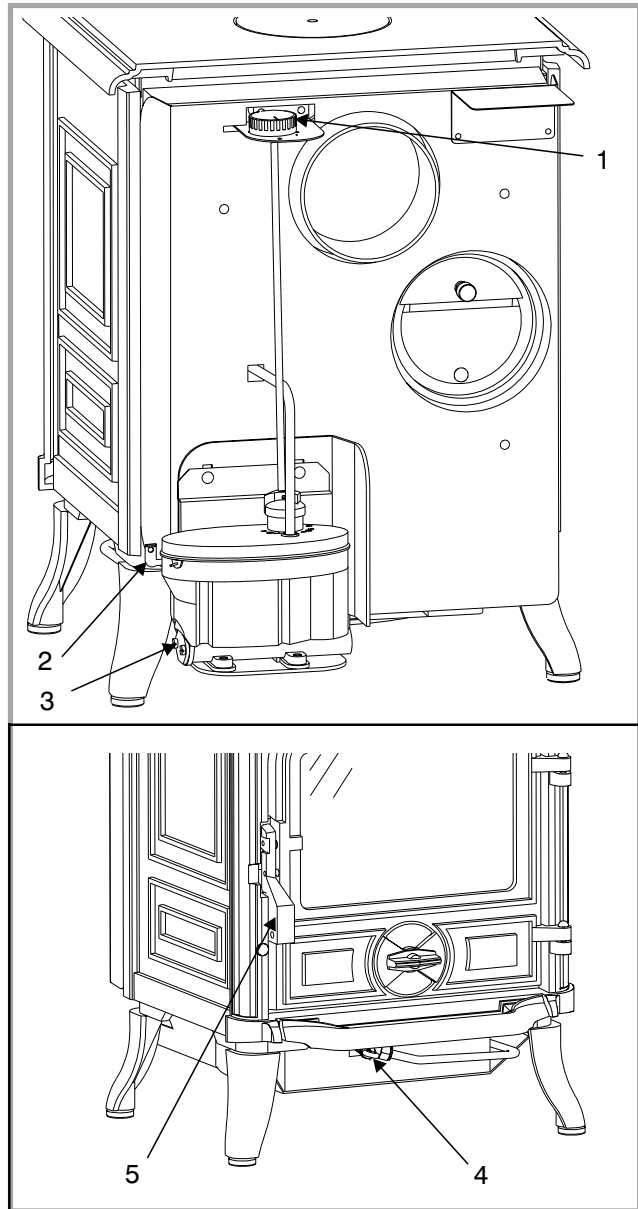

Figure 15 - Operating devices
- Be sure the control knob is to "0" (# 1, fig. 15).
- Push down gently on the safety lever (# 2, fig. 15). This will allow the oil to flow into the float regulator.
- Set dial to the "0" position (# 1, fig. 15).
- Raise the safety lever of the float regulator (# 2, fig. 15).
Every week : operate the de scaling lever (# 4, fig. 15).
- set the regulation knob in closed position "0" (# 1, fig. 15),
- raise the safety lever of the float regulator (# 2, fig. 15),
- remove the filter cover plate located under the float regulator (# 3, fig. 15) with a screwdriver,
- turn off oil supply and set the control knob in closed position "0" (# 1, fig. 15, p. 8).